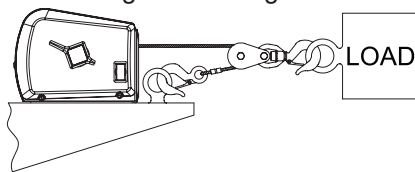

FIG. 1
4. For double line use, install an eyehook on the winch stand close to the base of the winch for fastening the stationary cable hook. (see Fig. 1) Be sure the eyehook is of sufficient strength to withstand loads in excess of the single line rating of the winch.